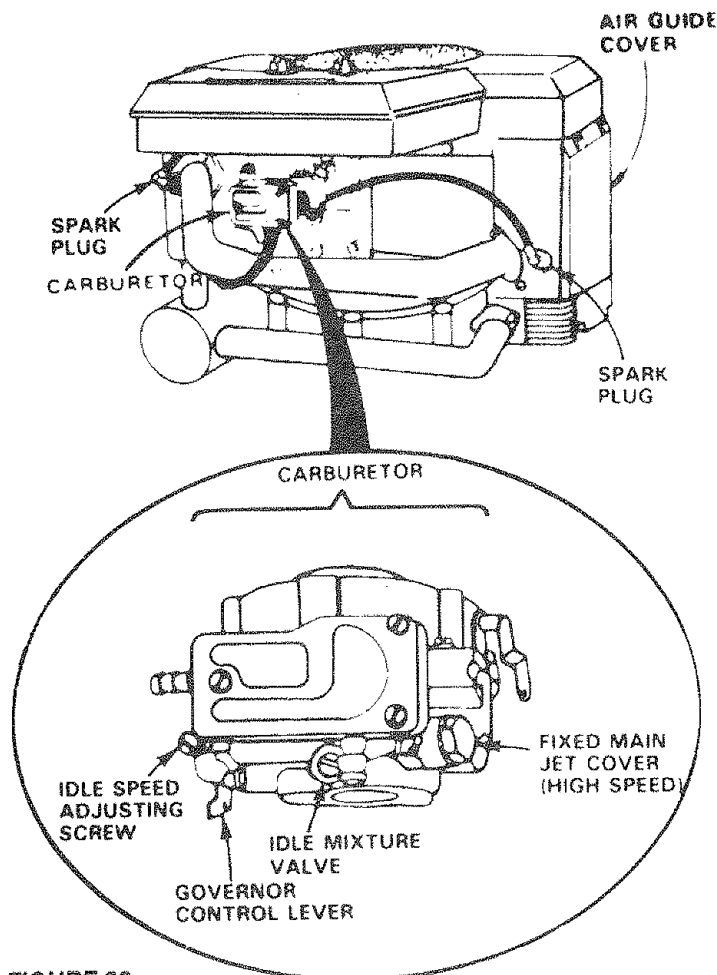

FIGURE 30
- Gently turn idle mixture valve clockwise (↻) (Fig. 30) until it just closes and then counterclockwise (↺) 1-1/2 turns. CAUTION: Valve may be damaged if turned in too far.